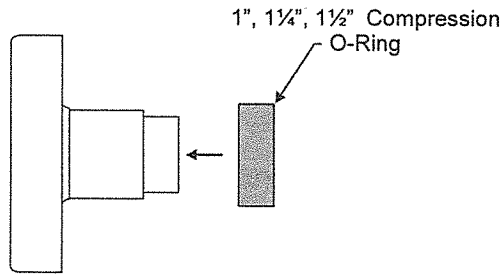

Fig. 1
3. Depending on the PVC pipe size used, mount the appropriate size O-ring on the back of the remote control as shown in Fig. 1 and cut the other two off of the cable.